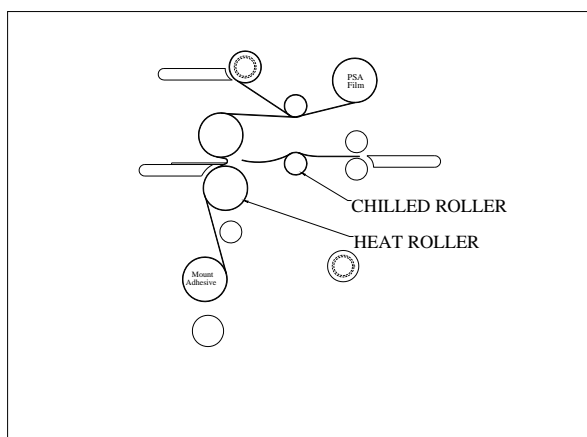

FIGURE 26
8. Pivot the table back to its feeding position while ensuring the threading card is on top of the feed table (Fig. 26).